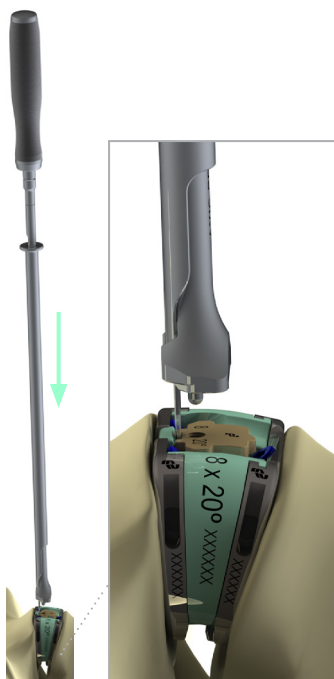

Fig. 55
- Locate the Locking Cap Inserter sleeve onto the Locking Cap in situ (Fig. 55), using the shape-matched features as guidance.